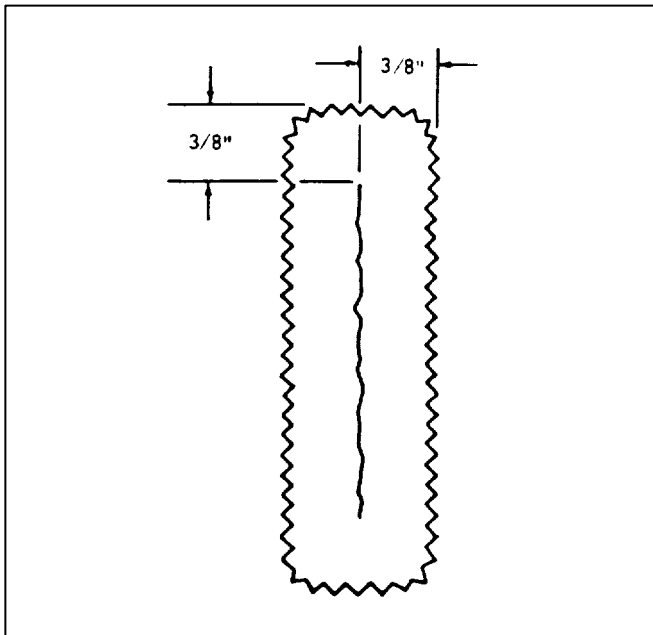

Figure 4-6. Rectangular Patch
e. Center patch over damaged area (Figures 4-6, 4-7, and 4-8). Roll firmly to eliminate wrinkles and channels. Dust repaired area with talc.
f. Patches will be square, circular, or rectangular in shape with rounded corners and cut large enough to extend 3/8-inch beyond the edge of defect as shown in Figures 4-6, 4-7, and 4-8. The cemented area shall be slightly larger than the patch to prevent loose edges.
(1) Wipe abraded area with acetone to insure area free of foreign matter and dusting powder.
(2) Brush on two very light coats of MIL-A-55 allowing coat to dry before applying second coat. Allow second coat to dry thoroughly and dust brushed area lightly with talc.